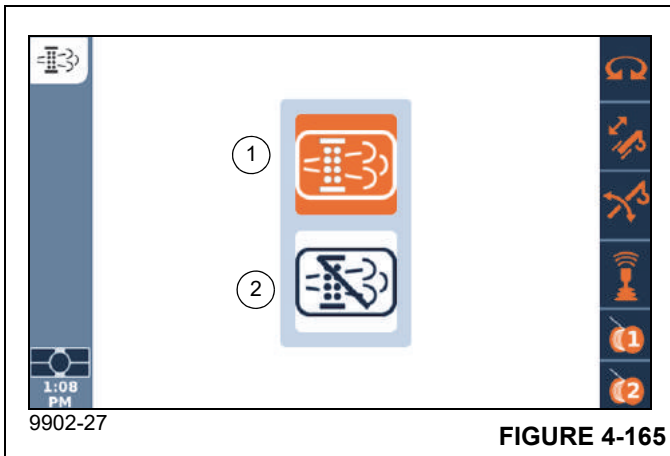

FIGURE 4-165
The Exhaust System Cleaning function screen (Figure 4-165) allows the operator to initiate or inhibit the exhaust system cleaning process.
6. Using the Jog Dial or the Up/Down Arrow Buttons on the Navigation Control Pad, select the Initiate Manual Cleaning Process Icon (1, Figure 4-165) (icon turns orange).
Pressing the service brake pedal or throttle pedal during cleaning or selecting the Inhibit Cleaning Process Icon (2, Figure 4-165) will interrupt the manual cleaning process.